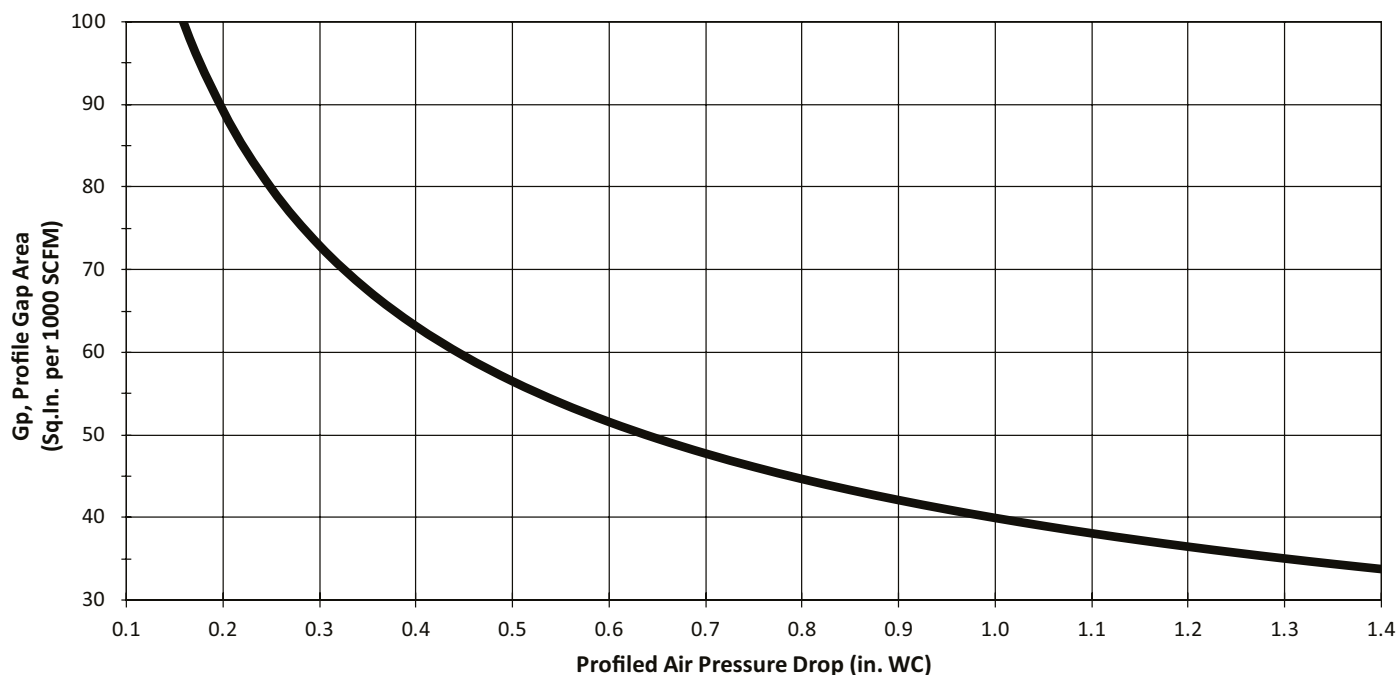

Fig. 7. Profile Gap Area vs. Air Pressure Gap
3. Gp = Profile gap area required per flow from Figure 7 (Profile Gap Area vs. Air Pressure Gap); see Table 6 and 7 (Profile Gap Correction Factors) for corrections at other Temperature (Tp) and Elevation (Ep) conditions.
From Figure 7 (Profile Gap Area vs. Air Pressure Gap: Gp = 47.7, Tp = 1.0, Ep = 1.0